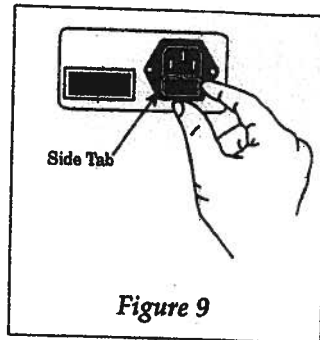
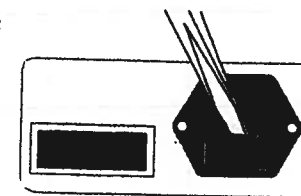

Figure 9
Figure 11
You may have one of two types of fuse holders. If the fuse holder has tabs on either side, as shown in figure 9, follow Steps 1 to 4 to replace the fuses. If the fuse holder has a tab on top, as shown in Figure 11, follow Steps 1A to 4A to change the fuses.
Step 1 Remove the fuse holder by pinching in on the small tabs on the sides of the holder. See Figure 9.
Step 1A Use a flatblade screwdriver to pry the fuse holder out of the retainer. See Figure 11.